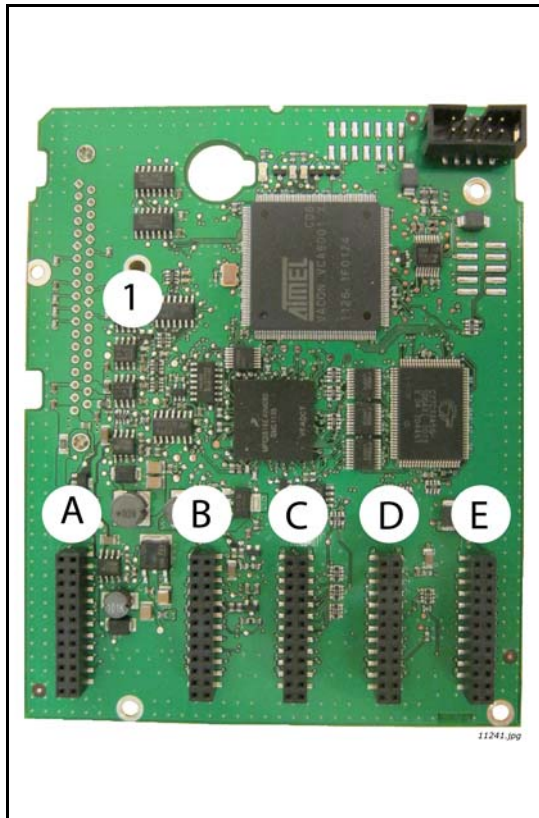

Figure 49. Control board
The control unit of Vacon® NX Active Front End consists of the control board and option boards (see Figure 49 and Figure 50) connected to the five slot connectors (A to E) on the control board. The control board is connected to the power unit through a D connector (1).